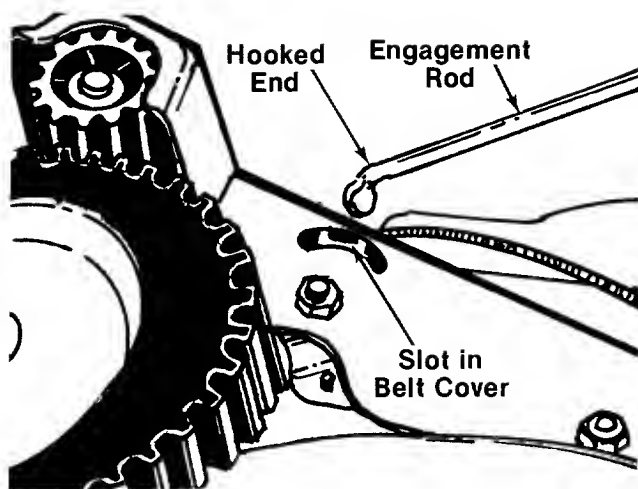

FIGURE 10.
17. Hook the end of engagement rod into idler bracket located inside slot on belt cover. See figure 10.